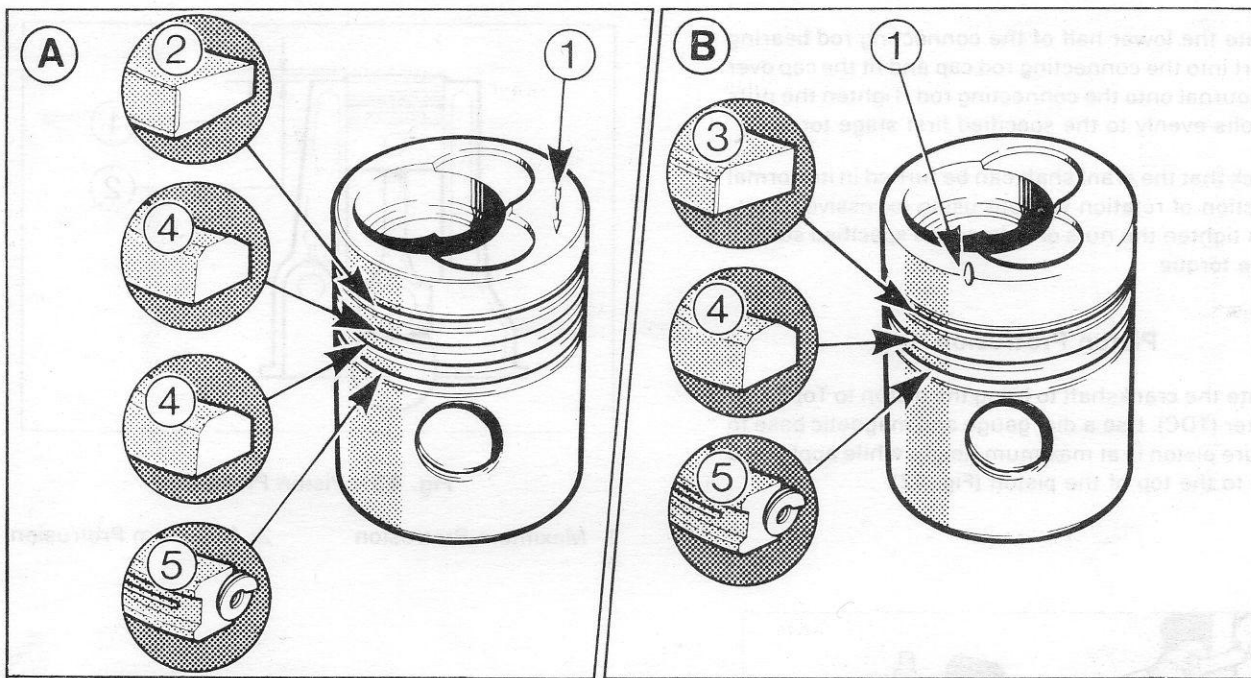

Fig. 41 - Piston/Ring Assemblies
**Note:** (a) Turbocharged engines have one tapered upper compression ring, two lower chamfered compression rings and one oil control ring (Fig. 41-A).
(b) All naturally aspirated engines have one plain compression ring, one lower chamfered compression ring and one oil control ring (Fig. 41-B).